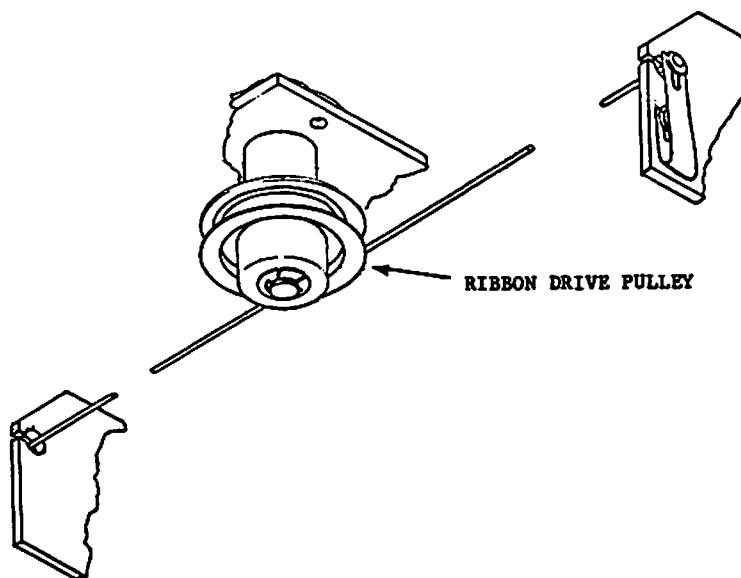

FIGURE 5-13 RIBBON ADVANCE CABLE
- 3) Remove C clip from bottom of ribbon drive pulley, remove 2 screws from top of ribbon drive assembly and pull through carriage assembly (Figure 5-13).